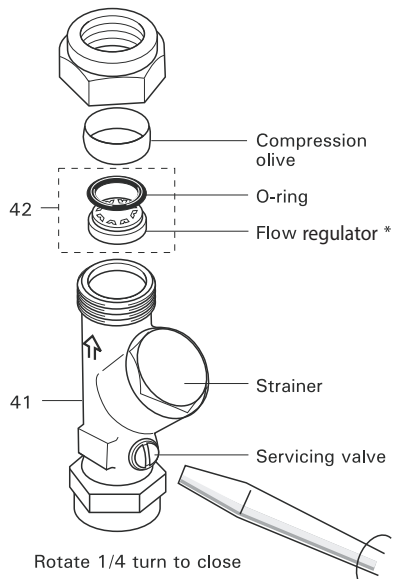

Figure 2 In-line filter and service valve showing restrictor
Approval only applies when the valves are installed without the flow restrictors illustrated in Figure 2.
When installing on a modulating combination boiler it is sometimes possible for the interaction of a thermostatic valve with the combi to cause the boiler to cut out and cut in again with the result that the water will become alternatively cold and hot. To overcome this it is necessary to fit flow regulators* L6935NU upstream of the CTV. (Not supplied). When installing on a combi boiler system these should be inserted in the downstream side of the servicing valve as shown on Figure 2. It is essential that these are positioned the right way round as shown in the sketch. Remove the compression nut and olive from the outlet side of the Isolating valve and place the restrictor in the outlet.
2. Turn the servicing valve to the off position, Figure 2.